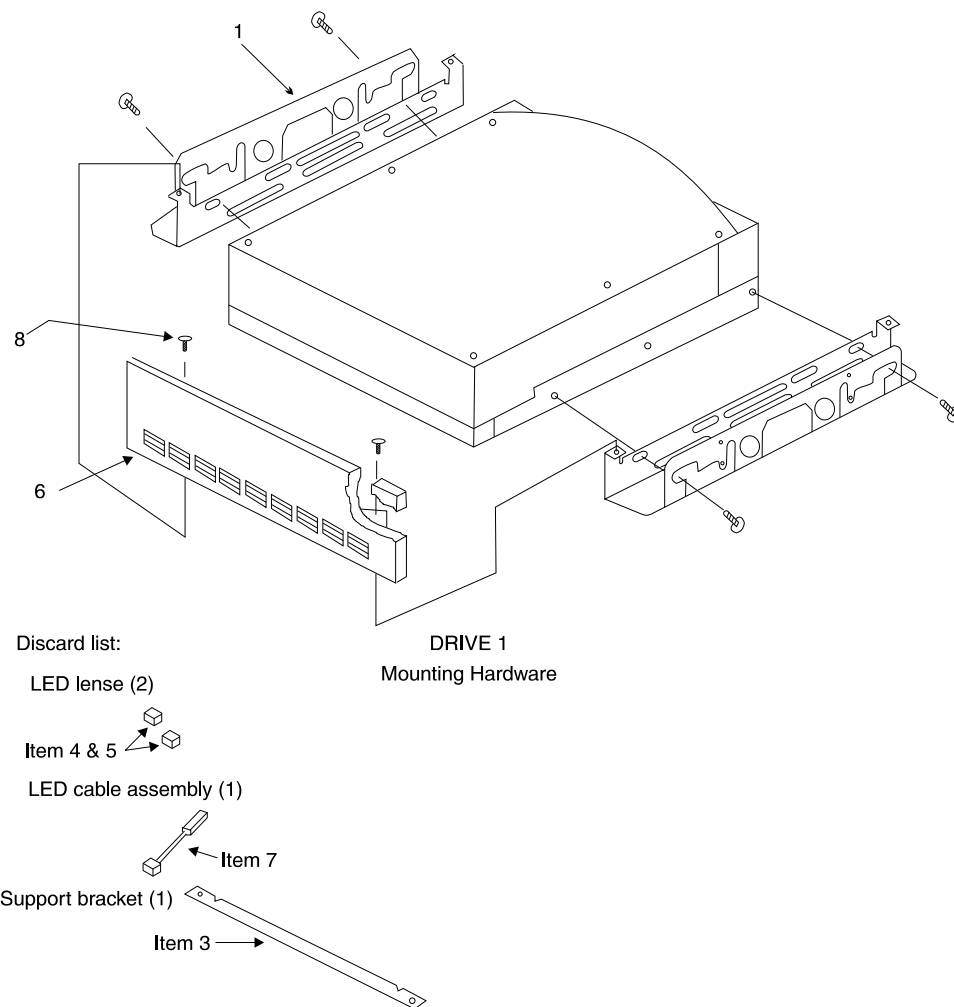

Figure B-21. Universal Installation Kit Assembly Instructions
7. Assemble the installation kit according to directions on the box. See Figure B-21.